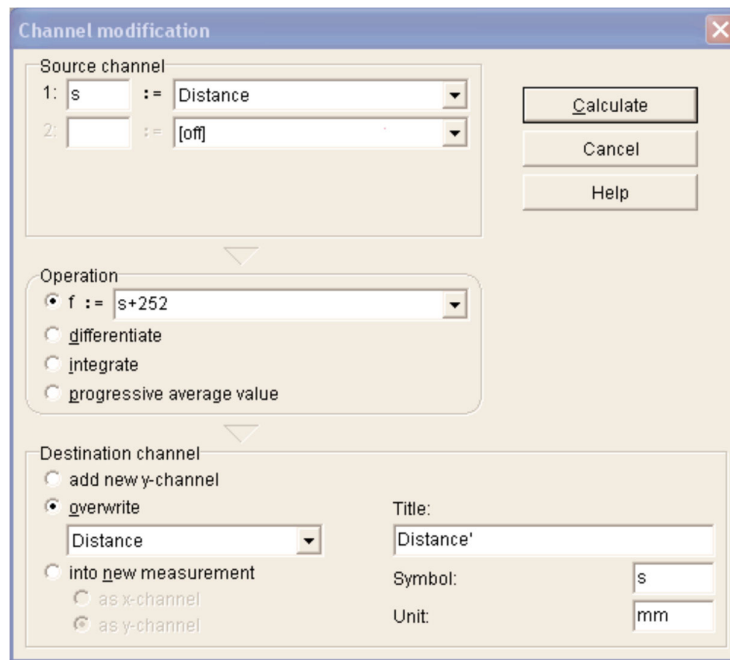

Figure 11: Altering the zero position
7. Set the coils and Hall probe according to Figure 9. After the calibration, record the curves for  $B_z$  ( $z, r = 0$ ) for different coil distances  $a$  with the **Continue** button and then appearing **Start Measurement** button. Make sure that the current stays constant for all measurements. The **Measure** program sets the distance to zero at the beginning of data recording, so note down the place of the Hall probe when beginning the measurement. You may alter the zero position in your data with the **Analysis** > **Channel modification...** function by selecting **Distance** as source channel, adding some value to the distance  $s$  and overwriting the old set of distance as seen in Figure 11. You can change the name of the coordinates with **Measurement** > **Information...**